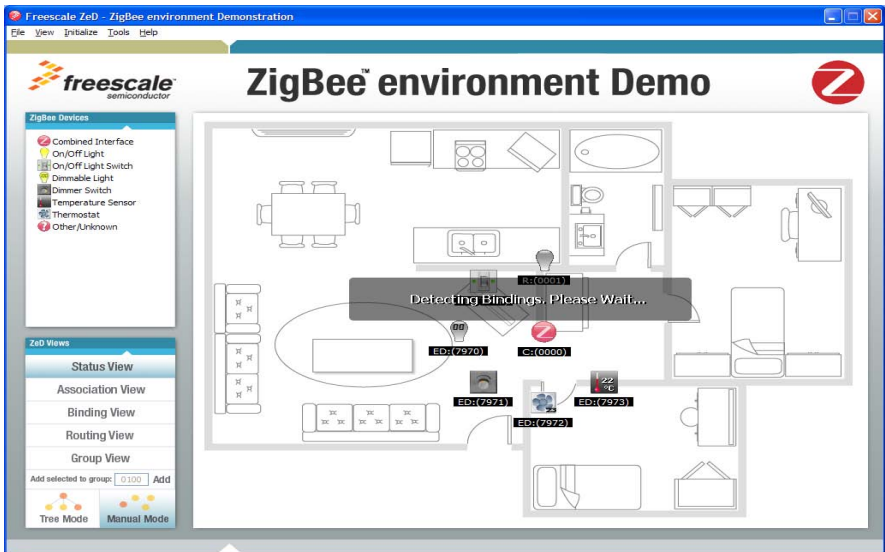

Figure 5. ZigBee Main Window During Device Detection
5. Ensure that the COM port of the ZigBee Coordinator is highlighted and click the OK button. This launches the ZeD main window as shown in Figure 5. ZeD connects to the ZigBee Coordinator and uses it as a gateway to find out information about the other nodes in the network. Users should wait until this network scan process is over and the “Detecting Bindings. Please Wait...” pop-up window disappears.